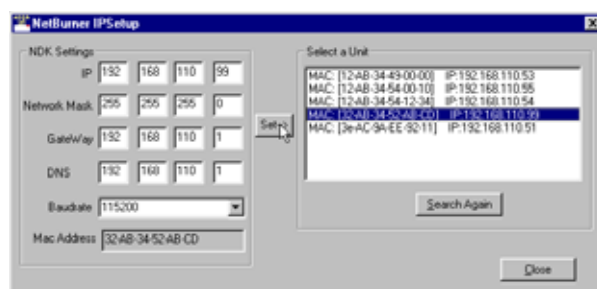

FIG. 34: IP SETUP MENU
- Double click on "IPSetup.exe". The IP Setup Dialog box appears. (See Fig. 34)